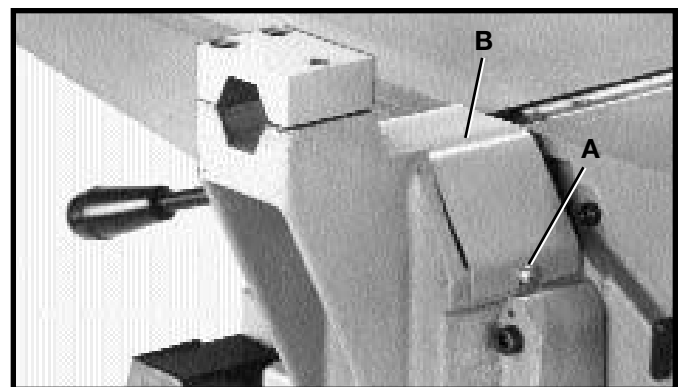

Fig. 17
1. Loosen two screws, one of which is shown at (A) Fig. 17, and remove cutterhead pulley guard (B)